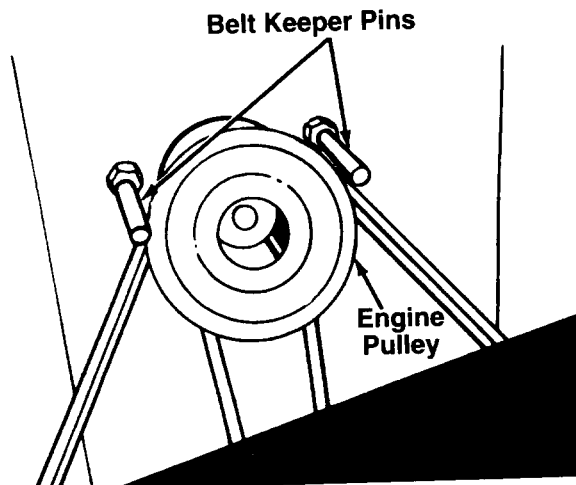

FIGURE 22
2. Remove the belt keeper pins from the engine pulley belt guard. See figure 22.
**NOTE:** When reassembling, make certain belt keeper pins are assembled in the same locations from which they were removed. See figure 22.